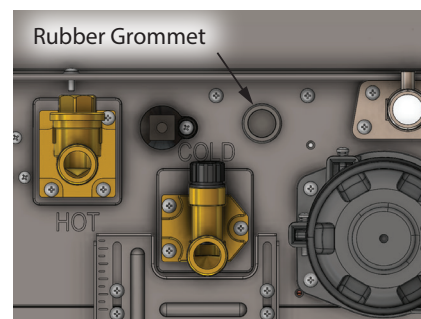

Figure 30 - Bottom of water heater - Grommet
- 6** Use Figure 30 to locate the rubber access grommet on the bottom of the water heater. Route the single harness end of the Cascade Linking Cable through the bottom and around to the circuit board.